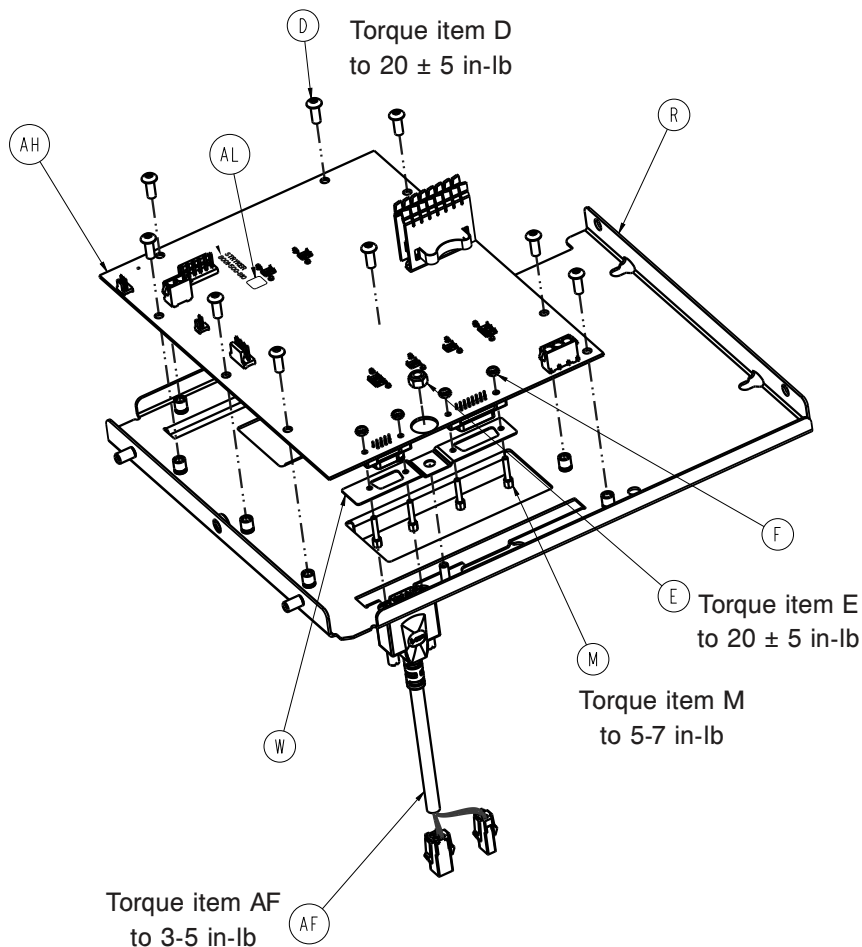

Figure 32: Fluid grounding bracket
- Using a T25 torx, remove the nine screws (D) that secure the fluid management board (Figure 32 on page 46).
16. Using 3/8" socket, remove and save the nut (E) that secures the fluid grounding bracket (Figure 32 on page 46).